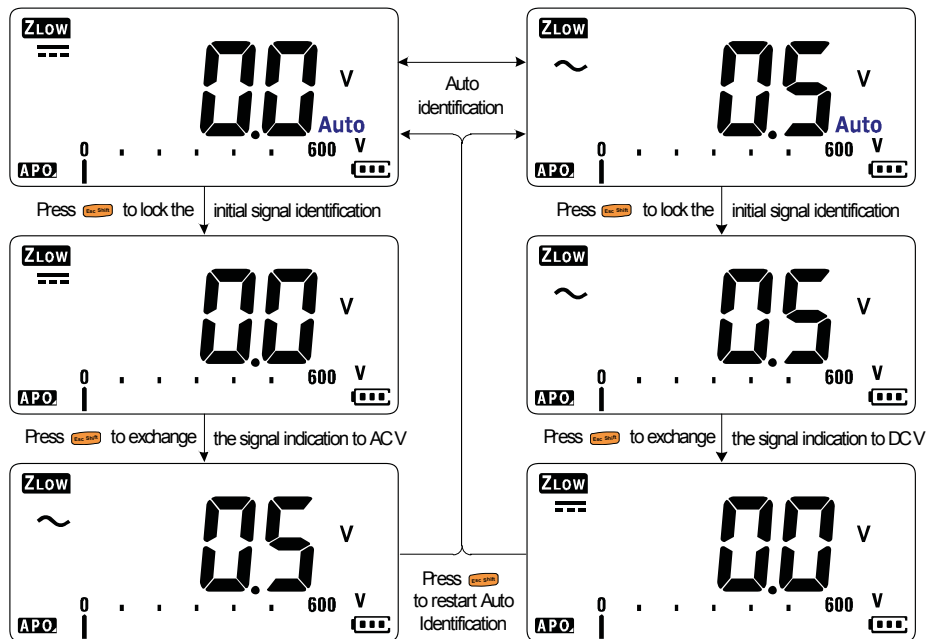

Figure 2-7 VZ_{LOW} auto identification flow
- Press **Esc Shift** once to lock the initial signal identification (AC V or DC V). Press **Esc Shift** again to exchange the AC and DC voltage indication on the primary display. Pressing **Esc Shift** for the third time will restart the auto identification of the signal. See Figure 2-7 to learn more.